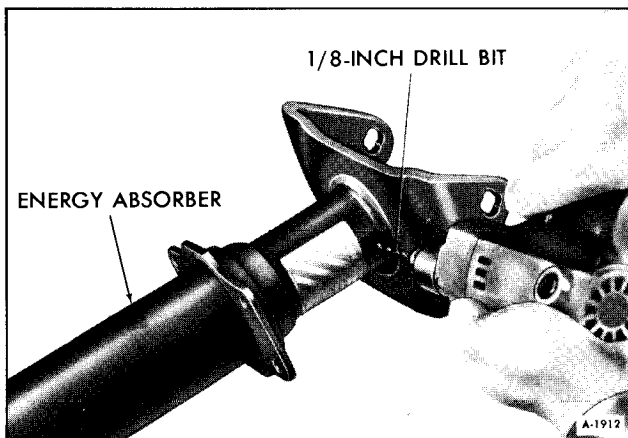

Figure 4—Relieving Pressure from Energy Absorber
4. Relieve gas pressure prior to disposal of a unit. Make an indentation with a center punch in the small cylinder section of the energy absorber (recommend "WARNING" label on the unit as a target area). Then, use a $1/8$ -inch drill to penetrate the small cylinder and relieve gas pressure (See figure 4).
3. Relieve the pressure by drilling a $1/8$ -inch hole in the piston tube near the bumper bracket (See figure 4).